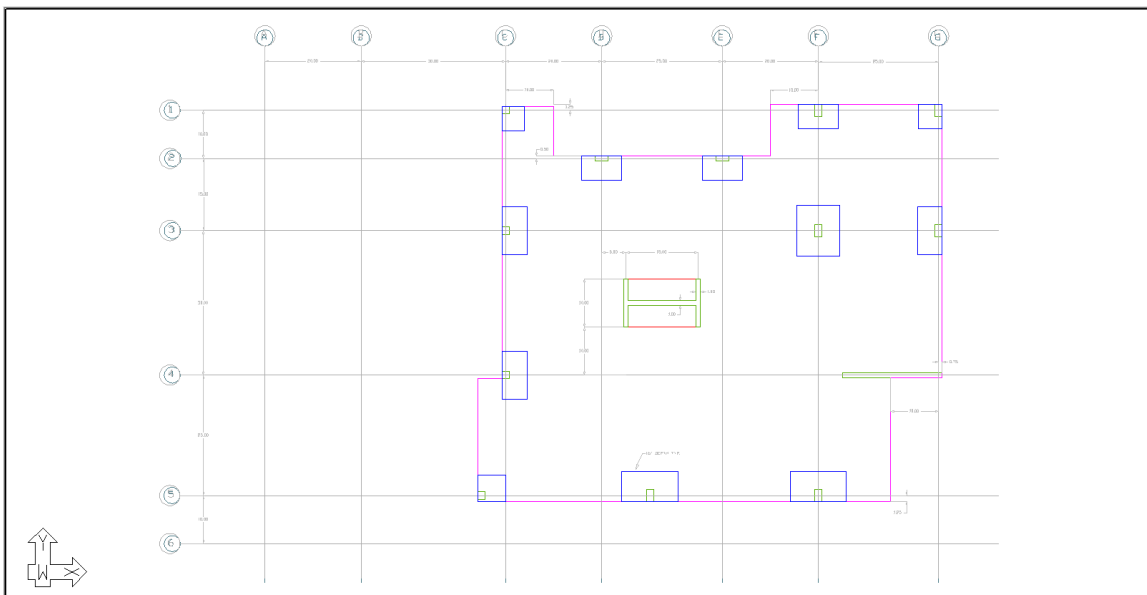

FIGURE 5-7
- At this point we can click on the **Zoom Extents** icon. The user should see the imported DWG overlaid with the model gridlines as shown in **FIGURE 5-7**.